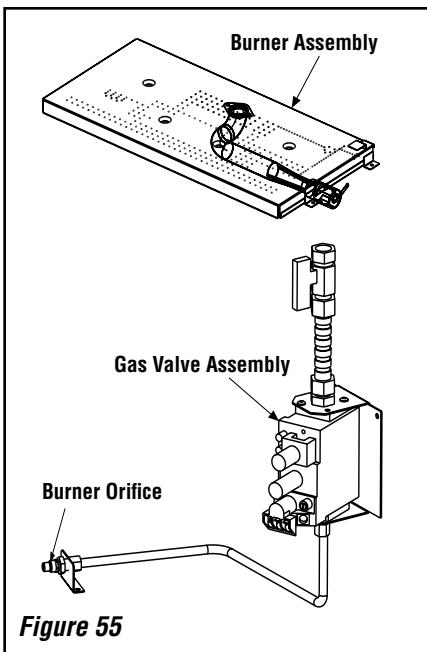
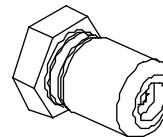

Figure 55
Figure 58
Step 4. Refer to *Figure 55*. Remove the two 5/16" screws securing the burner to the burner brackets. Carefully slide the burner to the left to clear the venturi from the orifice. Set aside the screws and burner assembly in a secure location for later reinstallation.
Step 12. (Refer to **Figure 55 on Page 33 and Figure 58**)
A. Remove the orifice from the manifold and replace it with the one provided in the kit. See the following table for orifice sizes for natural and propane models. **Figure 58** illustrates the orifice. Use pipe joint compound or Teflon tape on all pipe fittings before installing (ensure propane resistant compounds are used in propane applications, do not use pipe joint compounds on flare fittings).